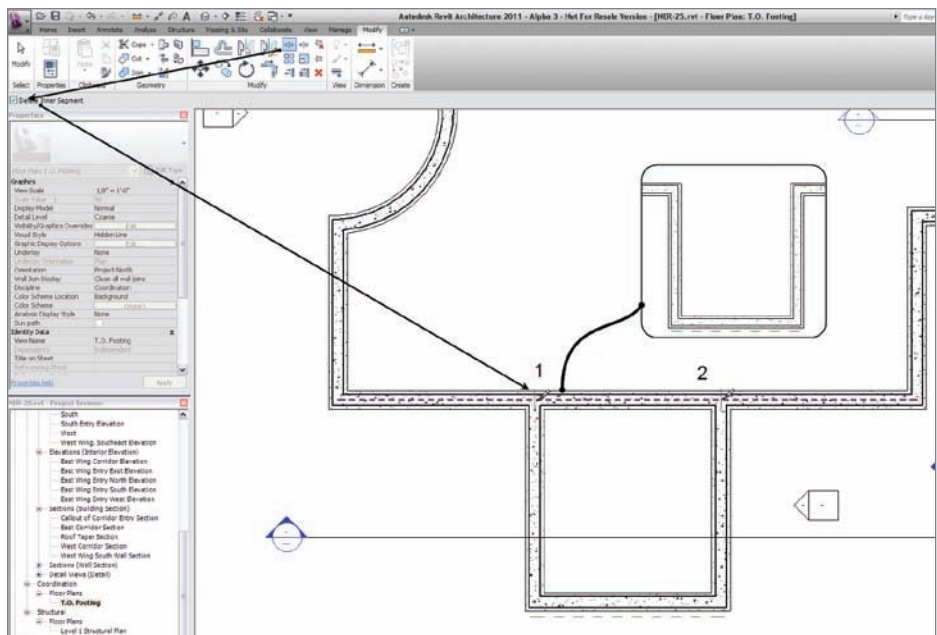

FIGURE 8.54 Splitting the foundation wall to follow the profile of the wall above
1. Zoom in on the area, as shown in Figure 8.54.
2. On the Modify tab, click the Split Element button, as shown in Figure 8.54.
3. On the Options bar, click the Delete Inner Segment checkbox (see Figure 8.54).
4. Pick the points labeled “1” and “2,” shown in Figure 8.54.